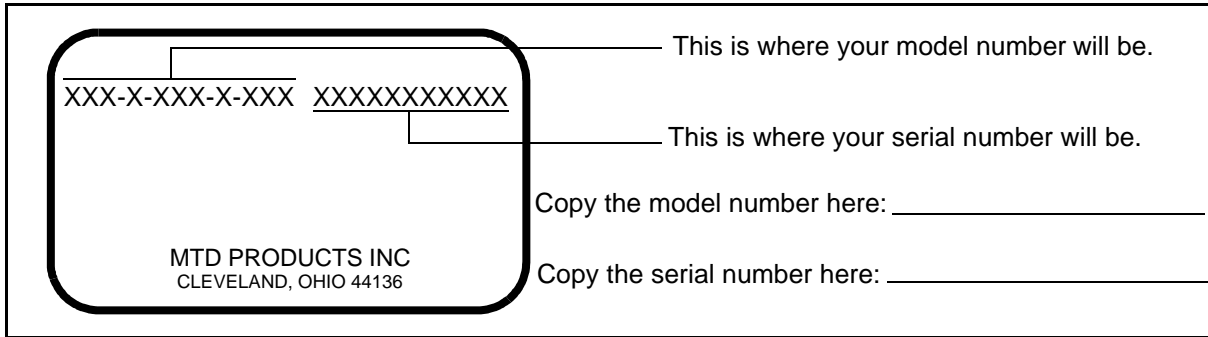

Figure 2
- Every snow thrower has a model plate. You can locate it by standing behind the unit in the operating position and looking down at the rear frame below the engine. See Figure 2.